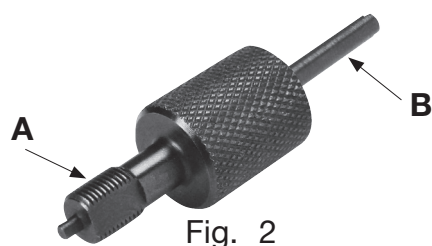

Fig. 2
3. To release the pressure of a gas spring with thread M6 use the discharging nozzle SN2955-M6 (fig.2).